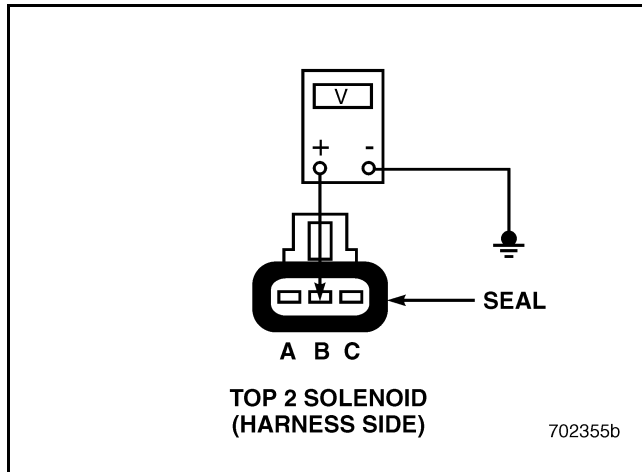

Figure 483
4. Measure the voltage between pin B on the dash harness side of the connector, and a good ground (see Figure 483).